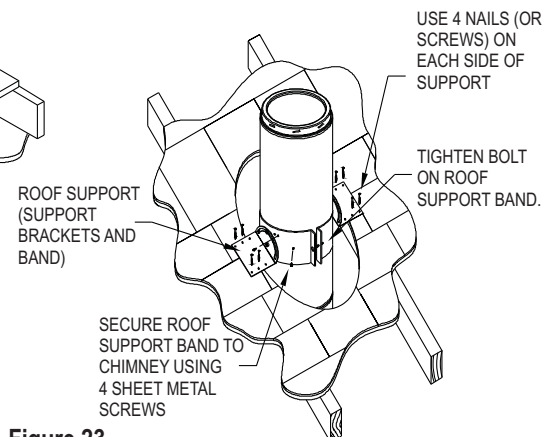

Figure 23
(B) **Roof Support:** A Roof Support may be used in installations where there is a cathedral ceiling, and a Square Ceiling Support is not desired. The Roof Support allows the DuraTech chimney to come down into the room below the level of the ceiling (**Fig.23**). The Roof Support can support a maximum of 30' of DuraTech Chimney total, with maximum of 10' above the support (**Table 2**). If a taller stack of DuraTech Chimney is required, you must use a Square Ceiling Support Box instead.
nails or (4) #8, 1-1/2" screws per side (**Fig.23**).
B5. **Transition to Connector Pipe:** Attach the Finishing Collar by twist locking it to the bottom section of DuraTech Chimney. Then, slide Trim Collar over the DuraTech Chimney and attach the Trim Collar to the ceiling using (4) 1-1/4" screws provided (**Fig.23**).